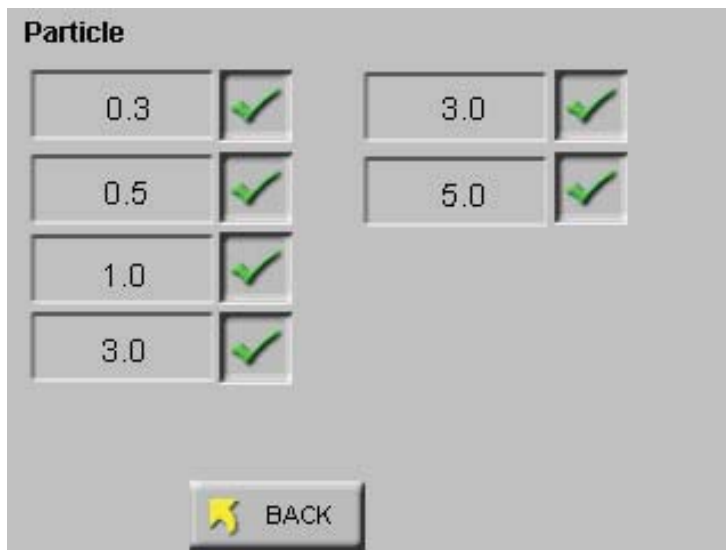

Figure 6-89 Reports Particle Screen
- Select the PARTICLE button to enable or disable particle channels as shown in Figure 6-89.